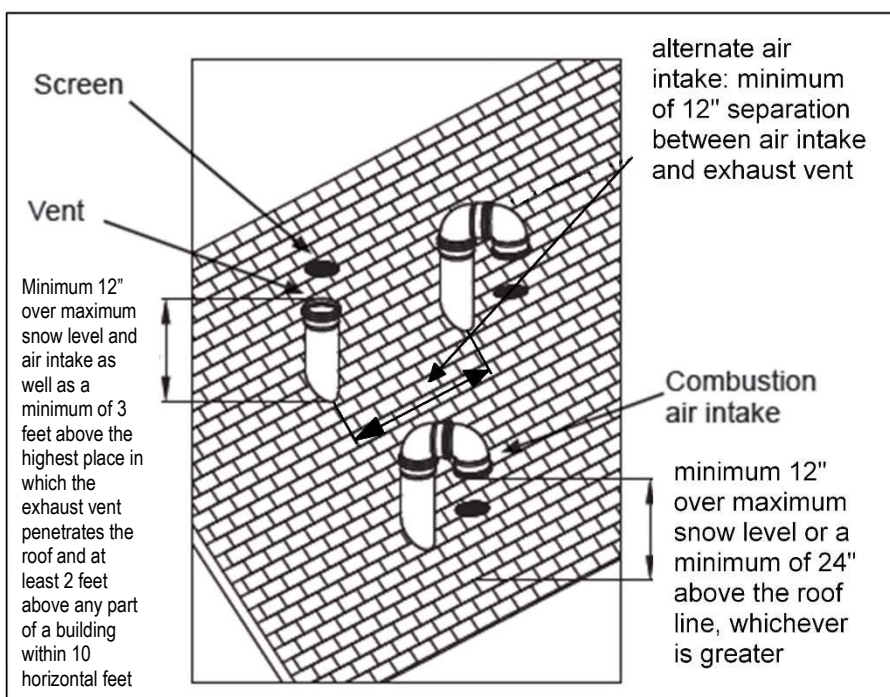

Figure 10.23
6. Maintain the required dimensions of the finished termination piping as shown in Figure 10.23.
1. When terminating multiple boilers, terminate each vent/air connection as described in this manual (figures 10.23, 10.24 and 10.25).
When two (2) or more direct vent appliances are vented near each other, each appliance must be individually vented (see figures 10.23, 10.24, 10.27 or 10.28) or common vented (see Chapter 11). It is important that vent terminations be installed as shown to avoid recirculation of flue gases.